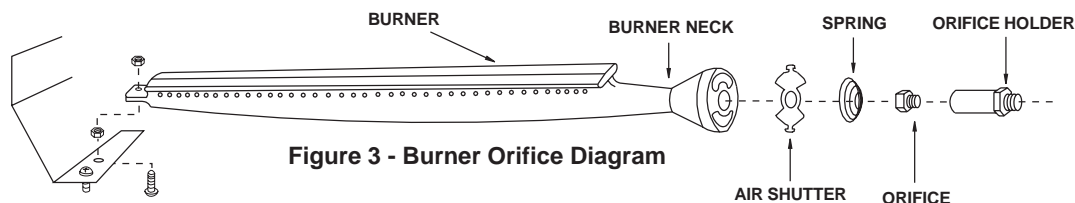

Figure 3 - Burner Orifice Diagram
f. After checking orifice drill size, install the air shutter spring and the air shutter over the orifice holder fitting, between the burner and the pipe manifold, in the order and position shown in Figure 3.
Fire Magic burners are constructed of heavy-duty cast stainless steel (cast brass and porcelainized cast iron burners are also available) and will withstand many years of outdoor use, if ordinary precautions are taken. Once or twice a year inspect the burners and determine if dirt or debris is building up excessively. Burners can be removed and scraped to remove debris from ports. Replace burners immediately if they show any signs of weak or thin walls. Refer to the bottom of page 4, Figure 3 for installing burners.